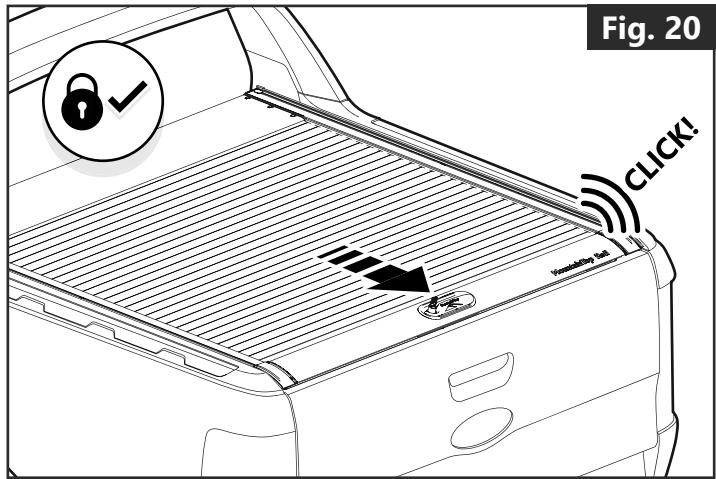

Fig. 20
- For the Roll cover to close correctly, the locking system must be engaged before the cover is closed. (**Fig. 20**)